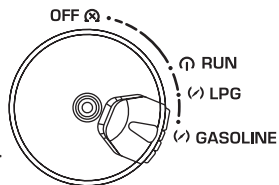

Fig. 8
3. Turn switch to GASOLINE position (fig. 8).